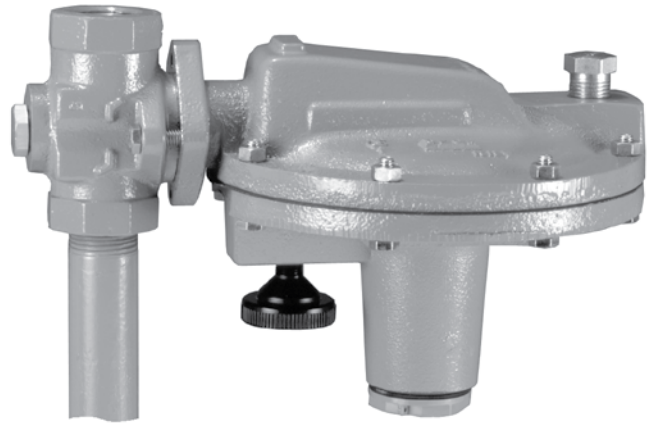

Figure 1. Type Y695A Vapor Recovery Regulator
**In the following step, be sure to install the spring case barrel pointed down as shown in Figure 1.**
8. Replace the diaphragm casing (key 4) on the body (key 1) and secure with the cap screws (key 2) using 7 to 9 foot-pounds (9,5 to 12 N•m) of torque.
9. Secure the disk assembly (key 13) to the disk spacer (key 44). Place the back disk spring (key 41) and a new back body seal O-ring (key 42) on the back body cap (key 43).